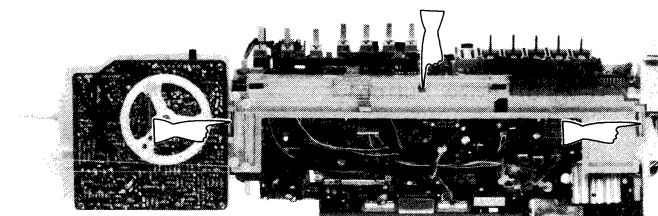

Figure 6-7
10. Remove one screw and two tabs at the dial stringing frame, and detach the frame. See Fig. 6-7.